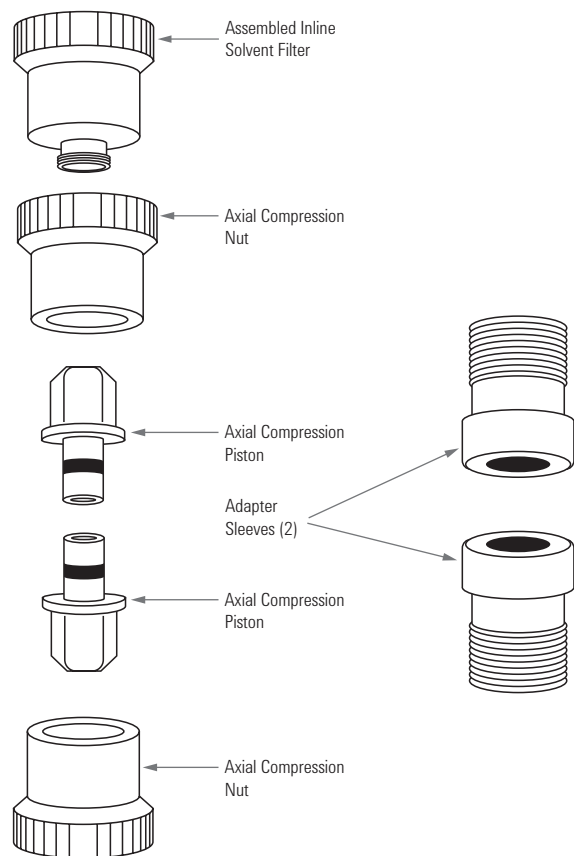

Figure 3. Contents of Analytical End-Fittings Kit No. 1
3.2. Remove the end-fittings kit from its shipping container. Check to see that you have received two adapter sleeves, two axial compression nuts, two complete axial compression pistons, and an inline solvent filter assembly. (See Figure 3). You should also have two 10-32 bushings and two ferrules. For future reference, in case replacements should be required, Parker-type ferrules are required but virtually any standard HPLC bushing with 10-32 threads can be used